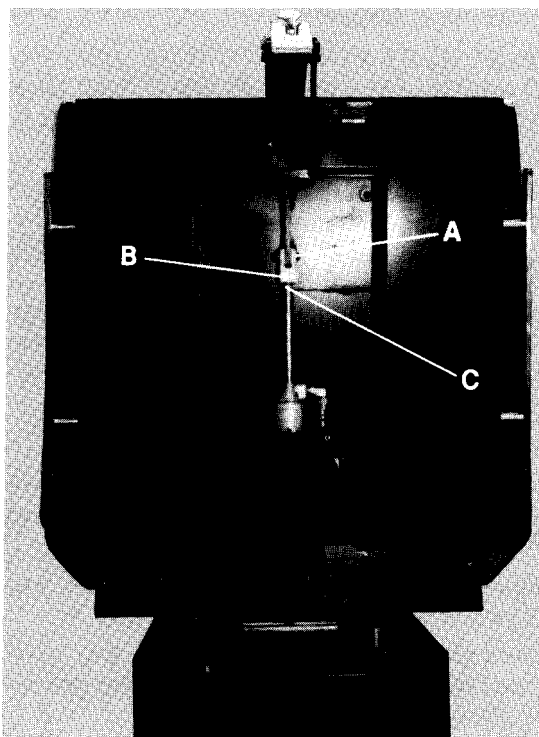

Fig. 24
- 3) With an assistant supporting the Back Section, remove the "E" Ring and Clevis Pin, Item "A", Fig. 24. Let Cylinder hang by clevis.
- 15) Position the back section and back cylinder as shown in Fig. 24 and install clevis pin and "E" ring, Item A, Fig. 24.
- 17) Position the table as shown in Fig. 26. The table top should be level. If the back section tilts down, then adjust the clevis, Item B, Fig. 24 out. If the back section tilts up, then adjust the clevis, Item "B", Fig. 24 in. To adjust the clevis, turn the cylinder rod using a 3/8" open end wrench. The rod will turn easiest when it is extended about half of its total extension.